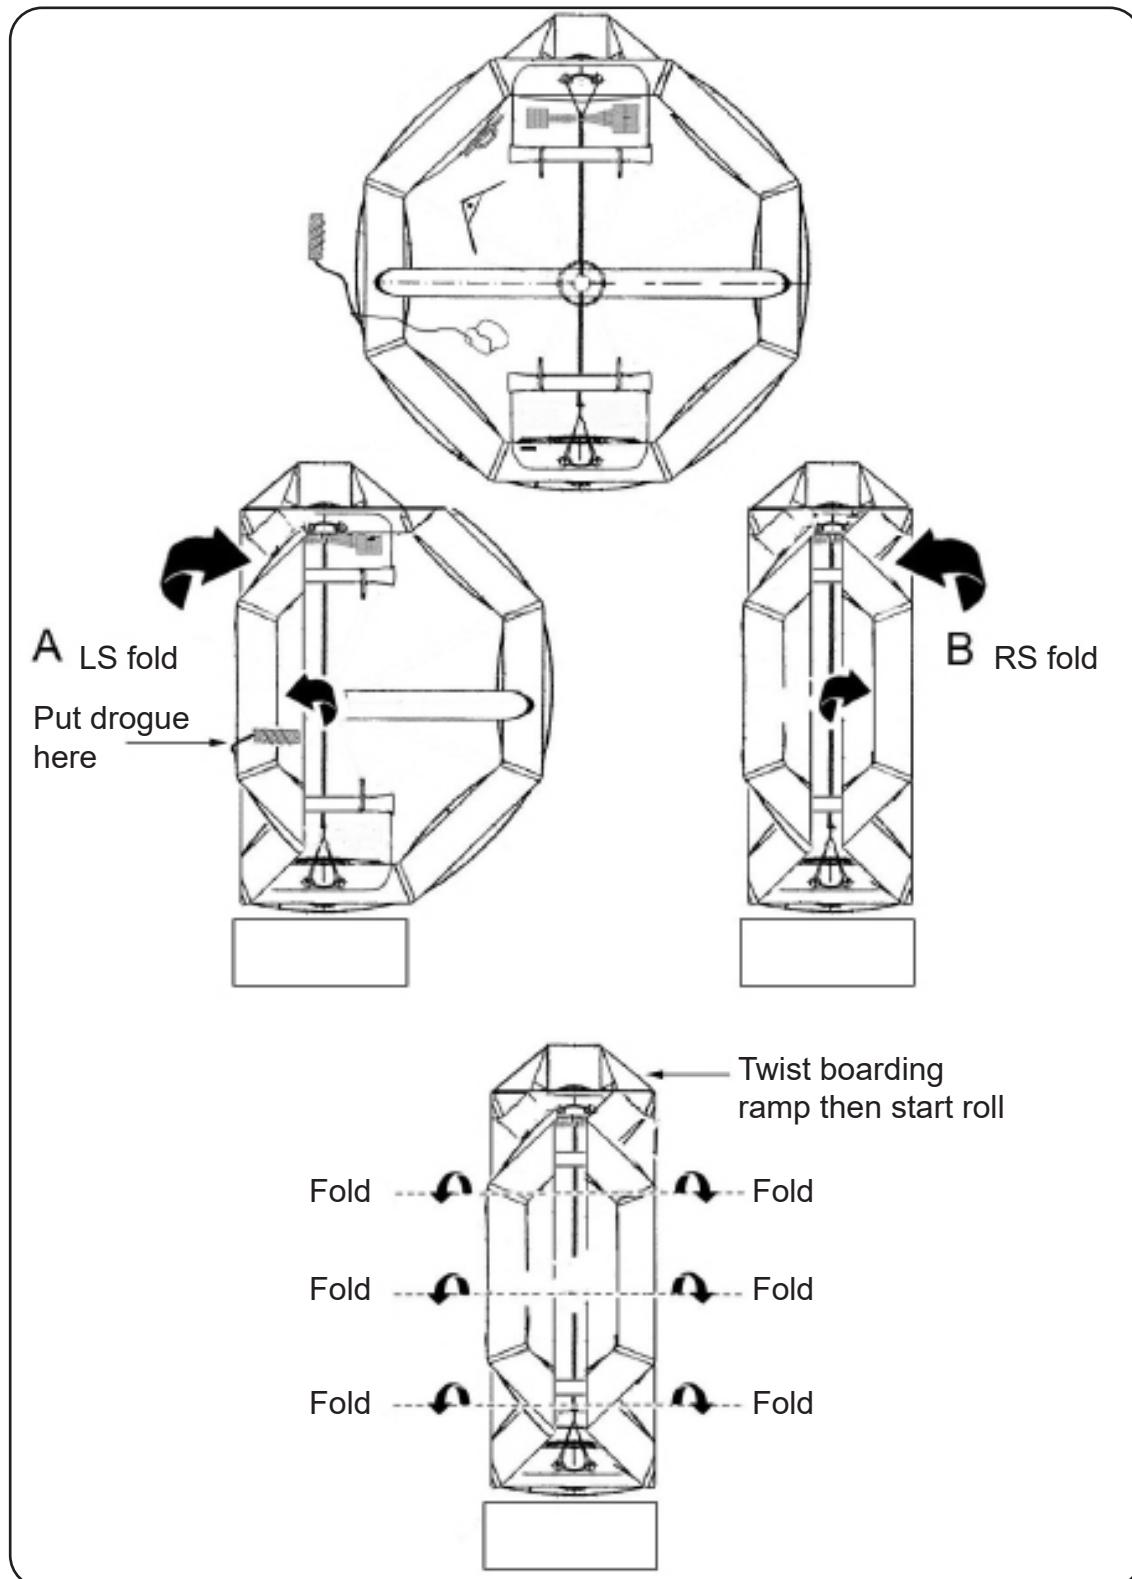

FIGURE 855
- (c) Flat-Pack container: Refer to FIGURE 855.